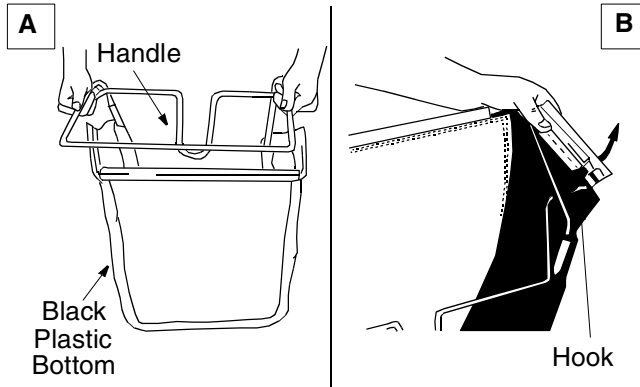

Figure 9
- Slide the ends of the front frame assembly into the ends of the rear frame as shown in Figure 9 A. The handle of the front frame assembly should be away
- Slip the openings in the side of the plastic channel on the bag over hooks on the grass catcher frame. See Figure 9 B.